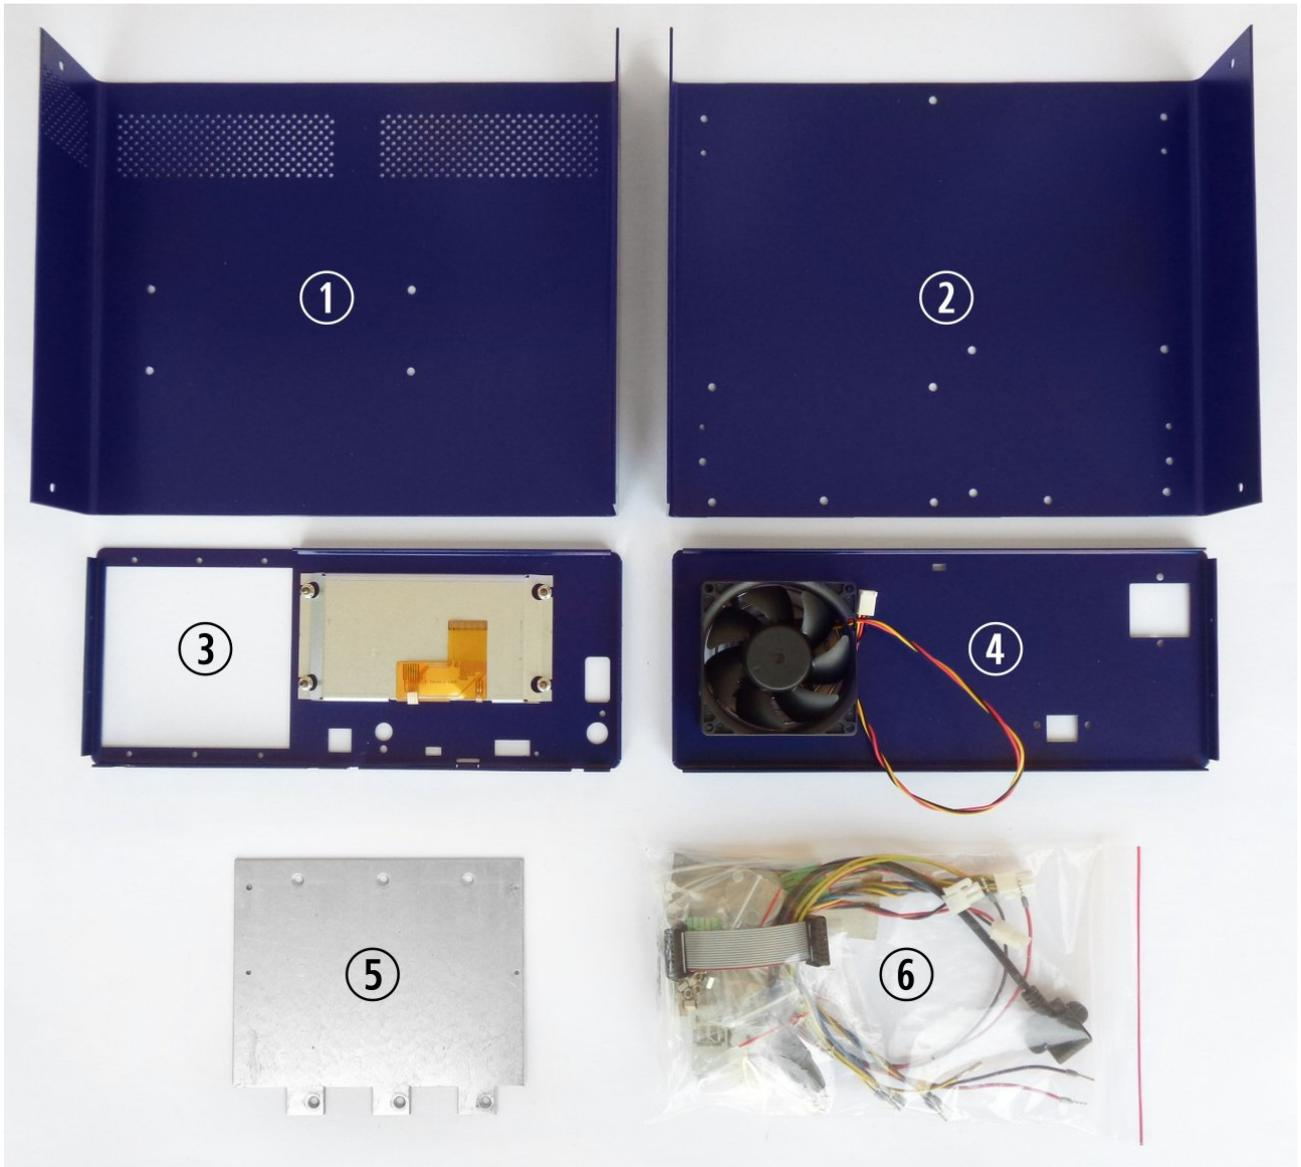

Fig. 1: BB3 kit content (r2B4)
- Top cover (Item 1, Fig. 1) has two additional holes for better fixation to the front and back panel.
- Missing M3 threads on 2 of the 4 holes on the Mean Well AC/DC converter mounting frame (Item 5, Fig. 1)
- TFT display on enclosure front panel (Item 3, Fig. 1) came with broken glass
The BB3 kit consists of the following parts, as shown in Fig. 1 and Fig. 2: